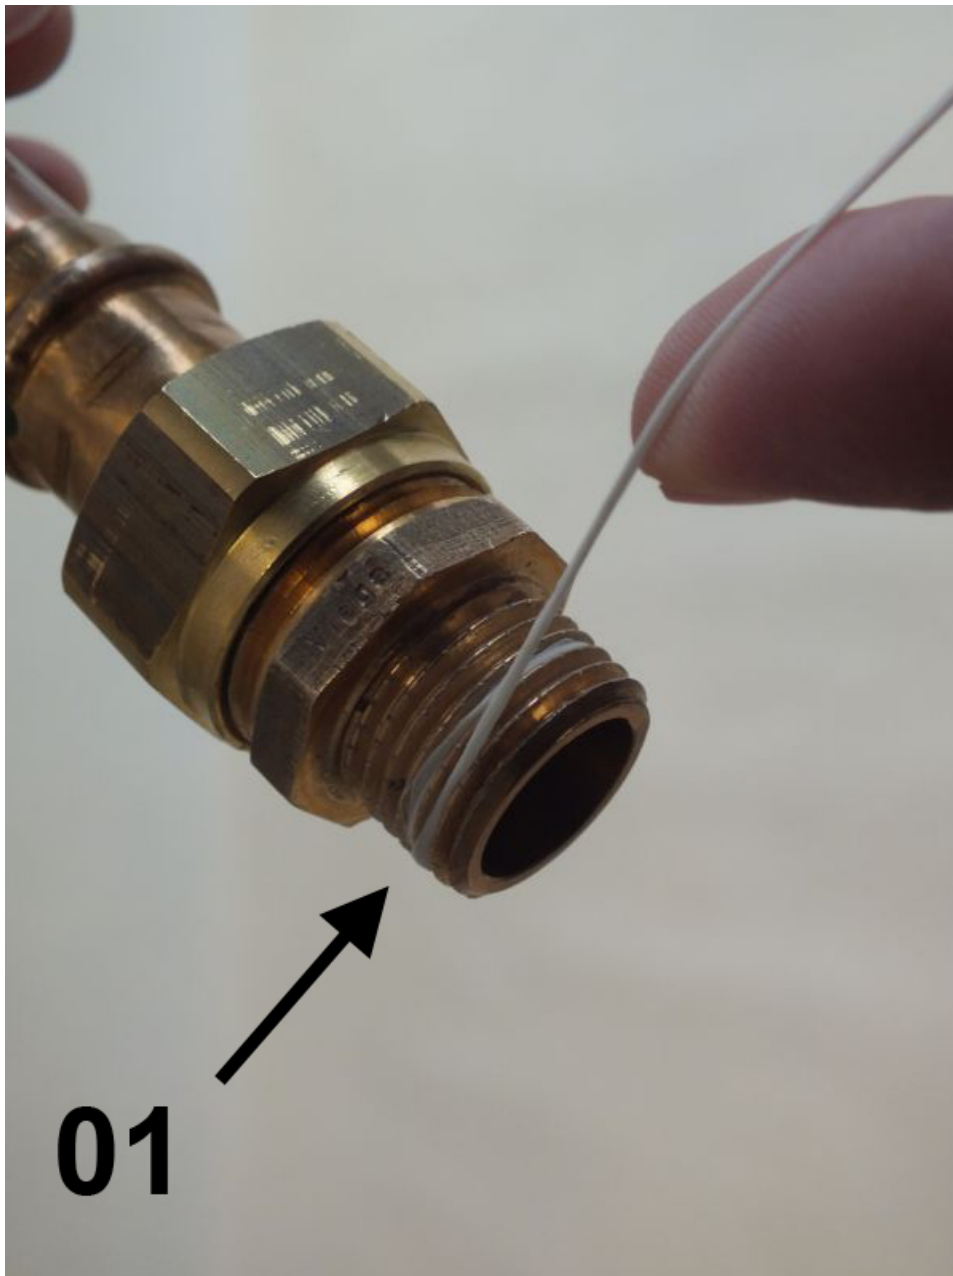

Fig. 9: Apply sealing thread
- 2.** Apply sealing thread (Fig. 9/01) to the napped thread in the threaded direction. Observe the quantity recommended by the sealant manufacturer.